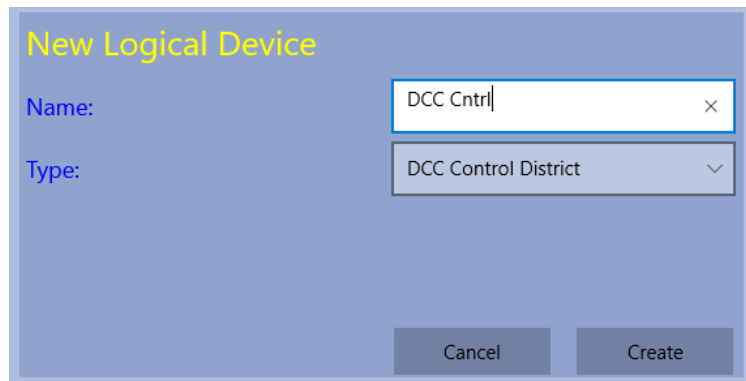

Figure 26 Creating a new DCC Control District Device
- (2) In the pop-up (Figure 26), select DCC Control District as the type and give it a name such as "DCC Cntrl". Click Create.